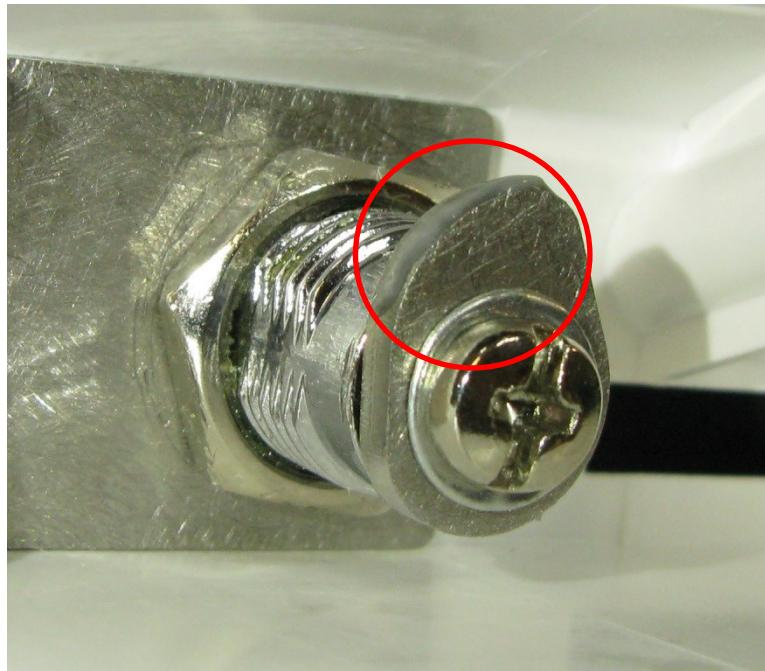

Fig. 96 Technical vaseline application on the curved end of the Lock cam
9. Apply some quantity of the **Technical vaseline TB-9** on the curved end of the **Lock cam (5)** as shown in Fig. 96.